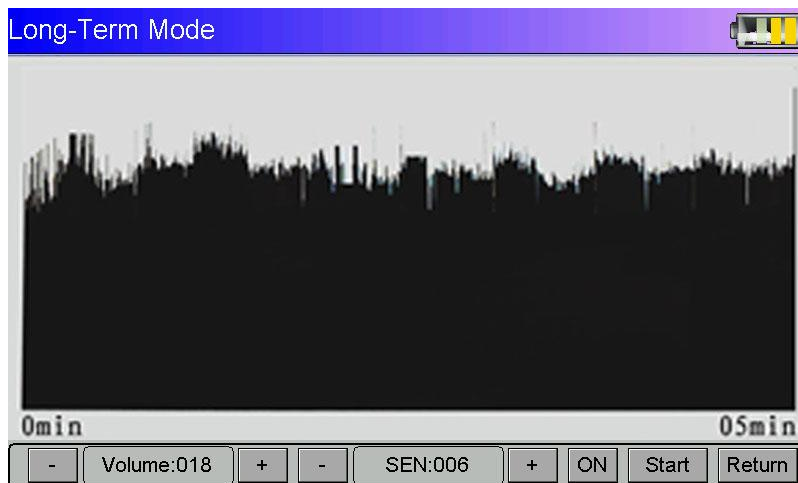
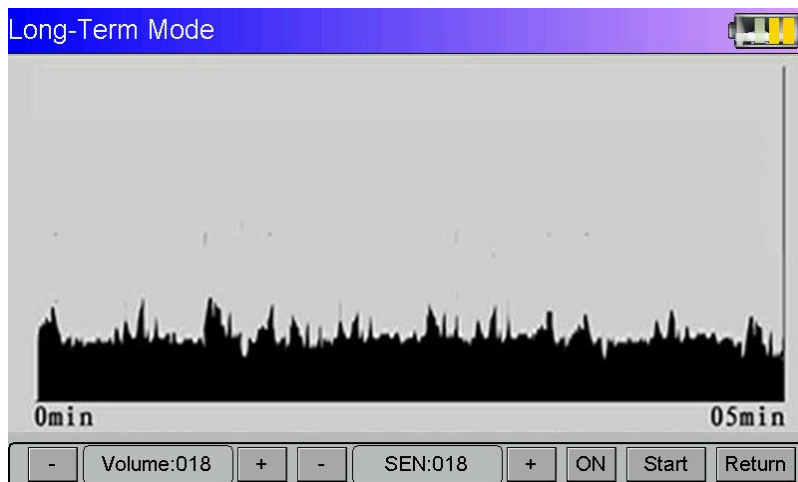

Figure 12
Figure 13
- In the same suspected leakage point, curve amplitude is higher in peak water while the curve amplitude reduce at the low water peak. (See Figure 12, Figure 13)